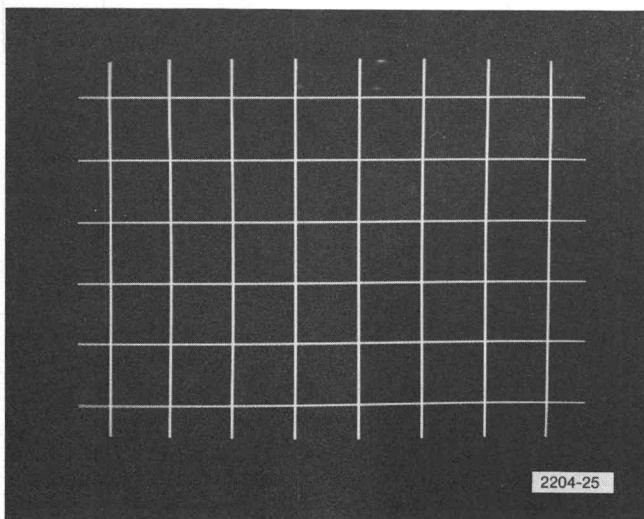

Fig. 1-25. Large Square Convergence pattern on Picture Monitor.
15. CROSSHATCH: With the CROSSHATCH switch in the ON position, observe the picture monitor. It will be displaying a crosshatch pattern like the one shown in Fig. 1-25.